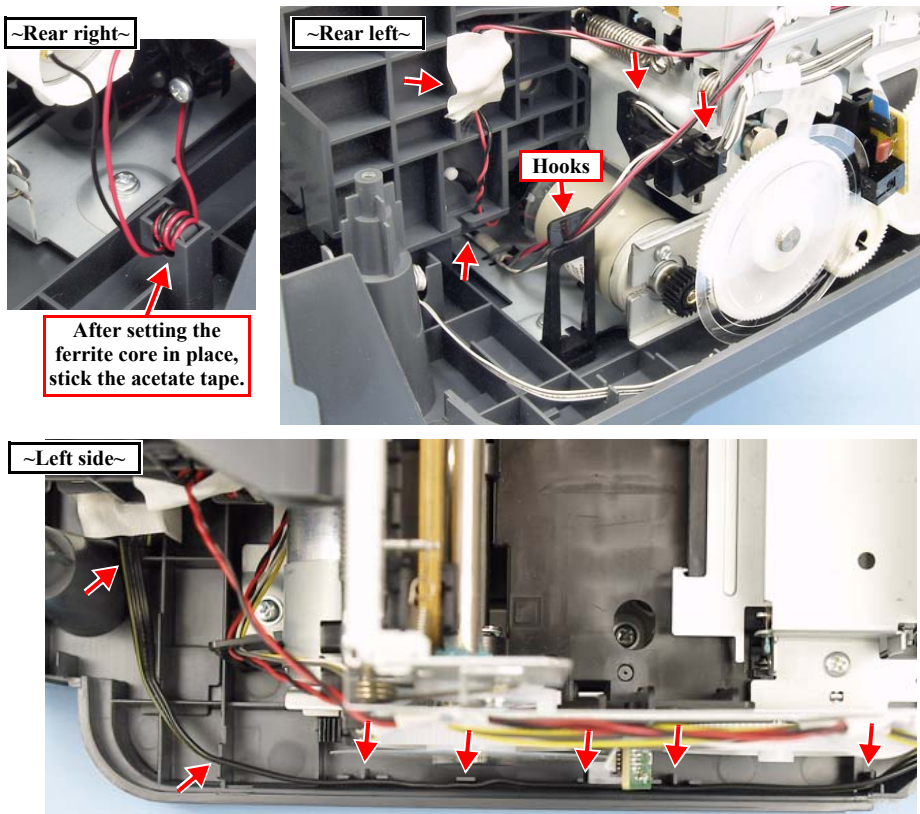
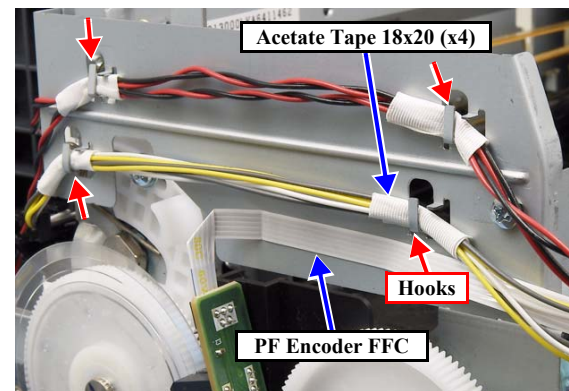

Figure 4-27. Routing the Cables
Figure 4-28. Routing the Cables and FFCs
- The cables and FFCs are routed properly. (Fig. 4-27), (Fig. 4-28)